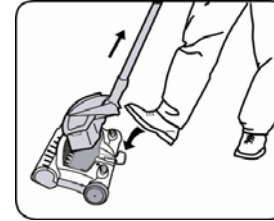

Fig. 12
- Press the dust cup release lever with your foot. (Fig. 12)